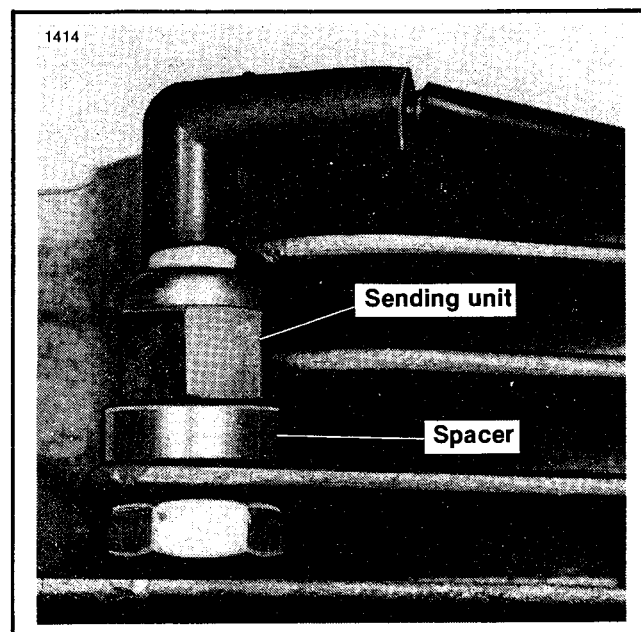

Figure 2. Sending Unit Mounting
4. Install sending unit and spacer as shown (see Figure 2), and tighten nut securely.